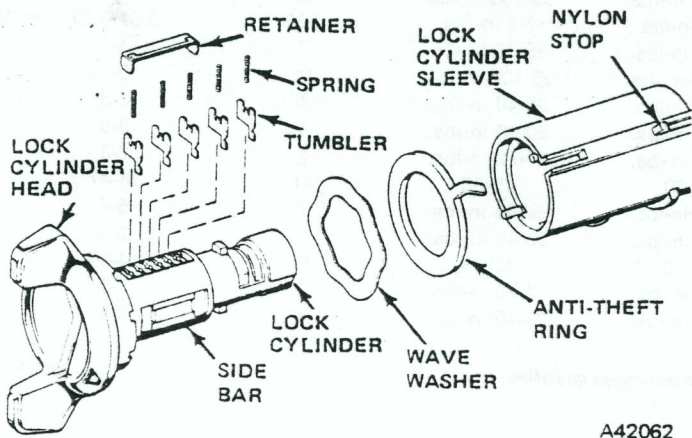

Fig. 2J-67 Ignition Lock Cylinder Assembly
- (6) Hold brass plunger pin in compressed position and turn lock cylinder clockwise using paper clip.
- (7) Stop turning cylinder when it springs upward slightly. Cylinder locking lugs are now aligned with sleeve locking grooves.
- (8) Remove ignition key.
- (9) Turn sleeve and cylinder upside down.
- (10) Fabricate wire hook from additional paper clip.
- (11) Lift nylon stop on lock sleeve using wire hook and separate cylinder from sleeve (fig. 2J-67).